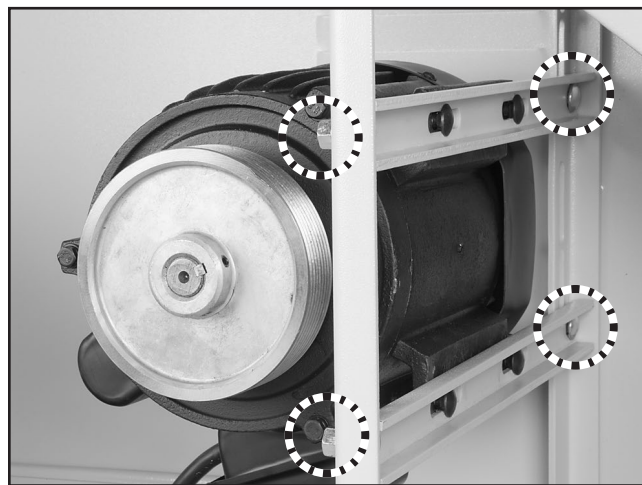

Figure 44. Motor mounting carriage bolts.
2. Loosen carriage bolts securing motor mounting brackets (see **Figure 44**).